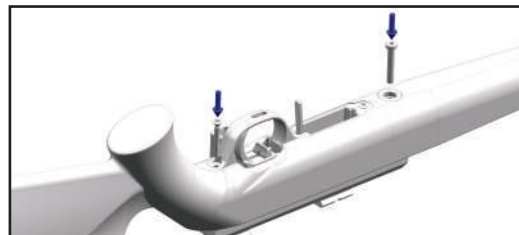

figure 16
3. Turn the gun upside down (figure 16).